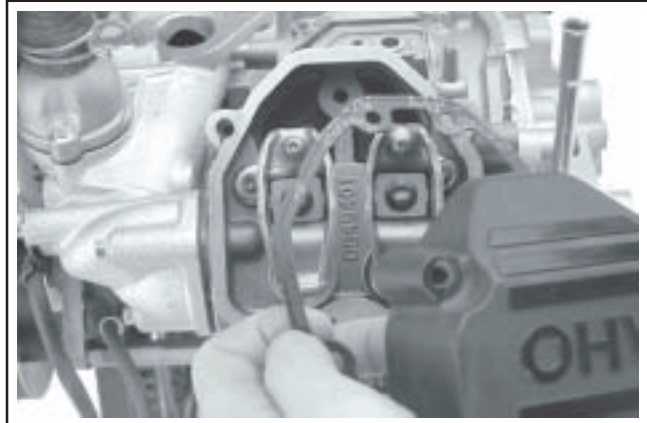

Figure 9-30. Removing Valve Covers and Gaskets.
2. Remove the valve covers and valve cover gaskets. Note on which side the oil fill or fuel pump is located, for correct reassembly later. See Figure 9-30.